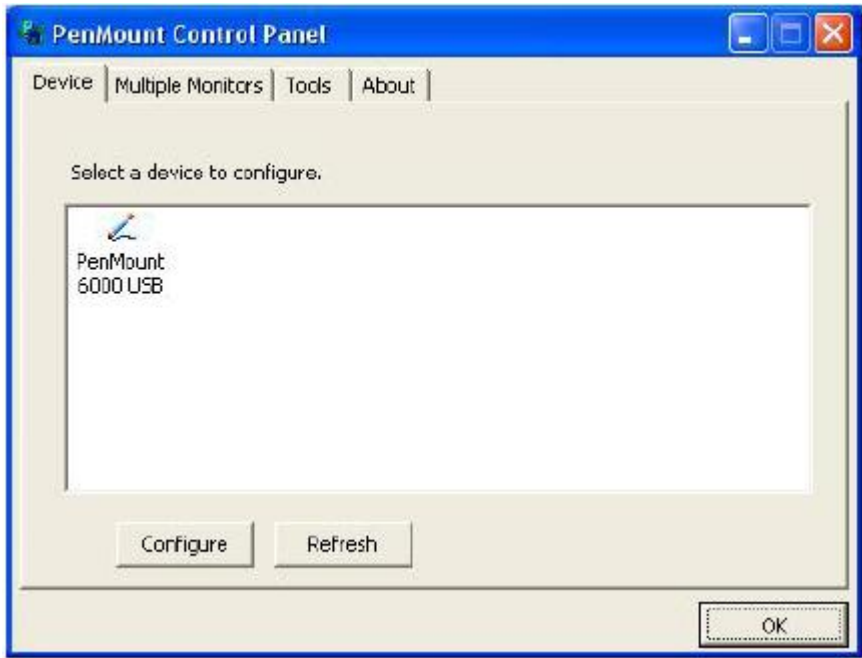

Figure 5-9: Configuration Screen
- Step 6: The configuration screen in Figure 5-9 appears.
- Step 7: Double click the PenMount 6000 icon as shown in Figure 5-9.